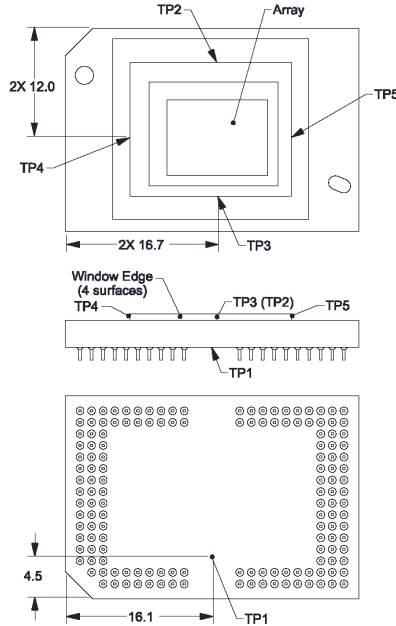

图 7-4. Thermal Test Point Location
Achieving optimal DMD performance requires proper management of the maximum DMD case temperature, the maximum temperature of any individual micromirror in the active array, the maximum temperature of the window aperture, and the temperature gradient between the case temperature and the predicted micromirror array temperature (see 图 7-4).
The DMD is designed to conduct absorbed and dissipated heat to the back of the Series 450 package where it can be removed by an appropriate heat sink. The heat sink and cooling system must be capable of maintaining the package within the specified operational temperatures, refer to 图 7-4. The total heat load on the DMD is typically driven by the incident light absorbed by the active area; although other contributions include light energy absorbed by the window aperture and electrical power dissipation of the array.
The temperature of the DMD case can be measured directly. For consistency, Thermal Test Point locations TP1 – TP5 are defined, as shown in 图 7-4.
Micromirror array temperature cannot be measured directly; therefore it must be computed analytically from measurement points (图 7-4), the package thermal resistance, the electrical power, and the illumination heat load. The relationship between micromirror array temperature and the case temperature are provided by 方程式 1 and 方程式 2:
- T_{Ceramic} = Ceramic temperature (°C) (TC2 Location 图 7-4)